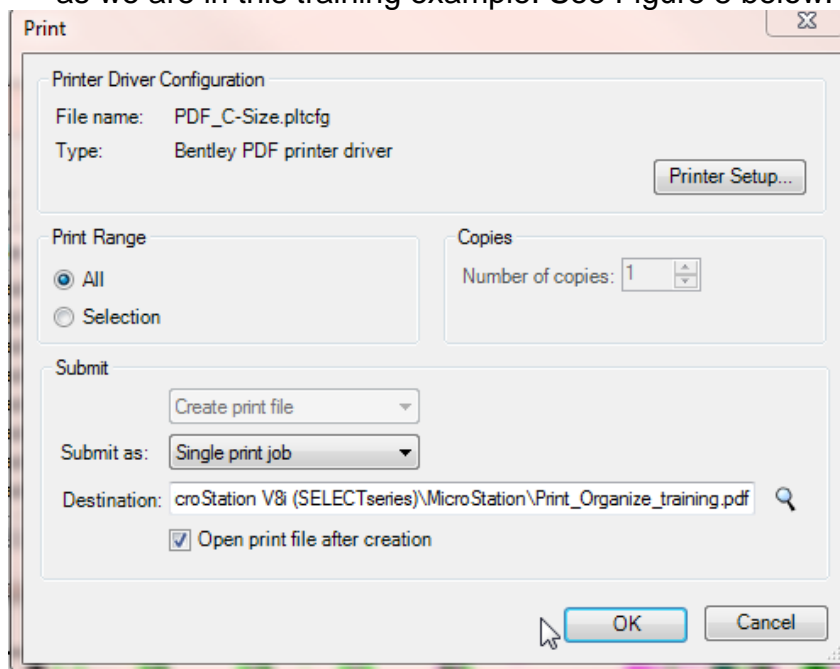

Figure 8
If no priority search is conducted, Figure 8 provides the settings for a proximity search. Select the appropriate selections from the Proximity Search Settings box and select Next>
- You will then see the print set up menu if you are printing a PDF document as we are in this training example. See Figure 8 below.